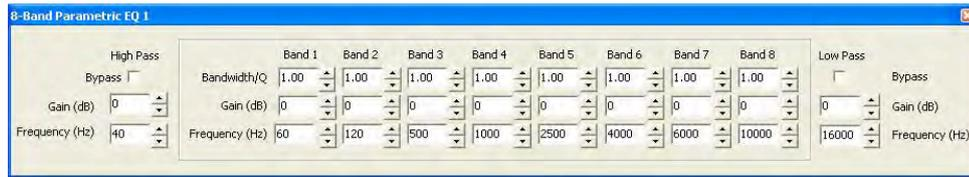

Figure 4-10: Equalizer Controls
- EQ: The Equalizer has 10 sections, a High Pass filter, a Low Pass filter and 8 bands of Parametric equalizer. See Figure 4-10 below. Note the HPF and LPF need to be bypassed if they are not to be used.